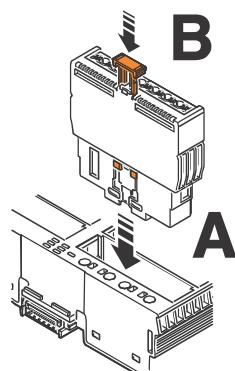

Figure 11-12 Inserting the Smart Element
- Insert the required AxioLine Smart Elements into the appropriate slots of the AxioLine F backplane (Figure 11-12, A).
- Push down the release mechanism (Figure 11-12, B). This locks the Smart Element in the backplane.